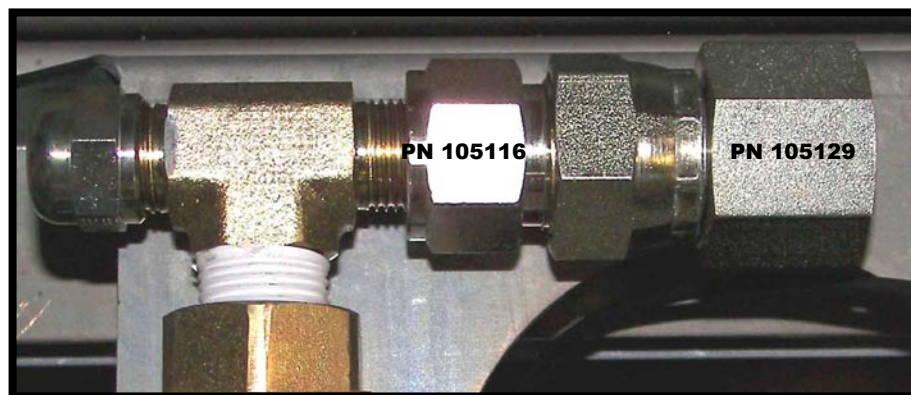

Figure 50 T-fitting with Adaptors
- 5) Connect the Flare Adaptors (PN 105116 and PN 105129) to the T-fitting inside the oil tank, then connect the steel pipe to PN 105129. Refer to Figure 50.